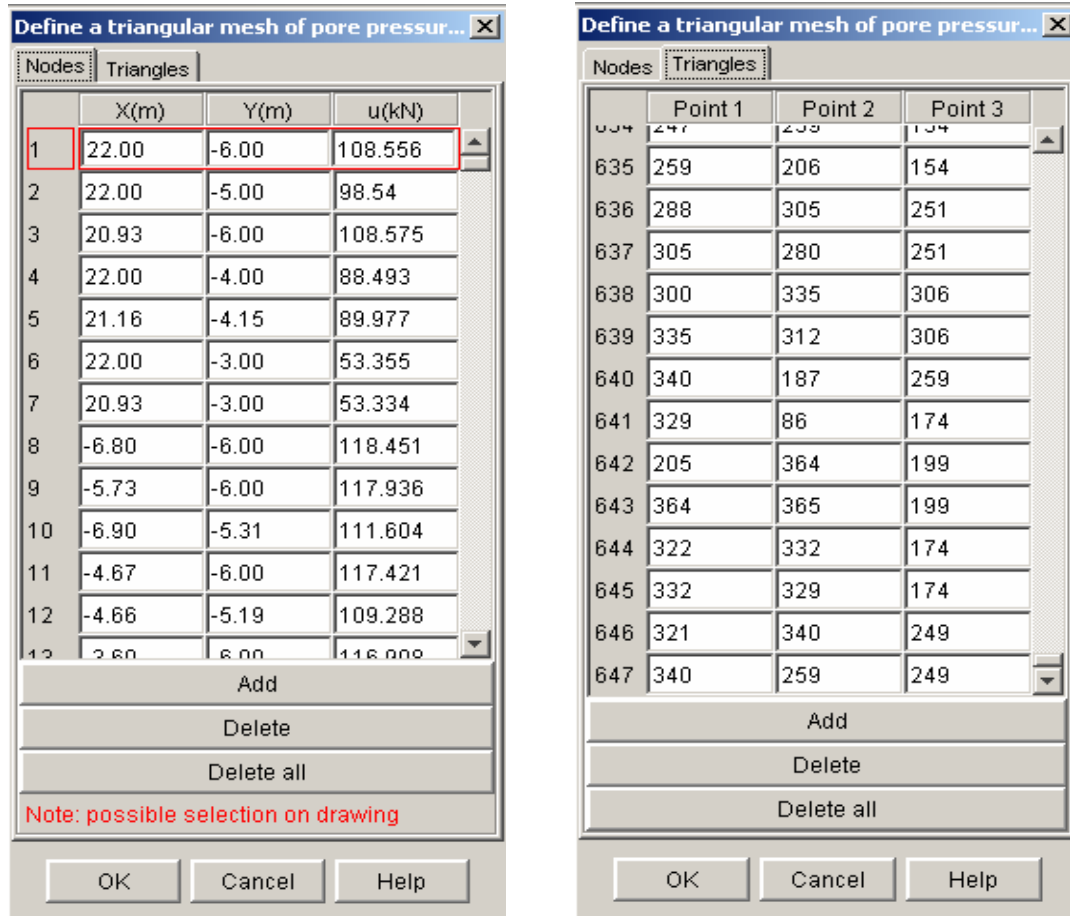

Figure 74: dialogue box displaying nodes and triangles of the pore pressures mesh
- In order to view the nodes and triangles of the pore pressures mesh, as well as the pressure values, click on the button [Define nodes and triangles], then use tabs [Nodes] and [Triangles] (Figure 74). The imported mesh in our case contains 265 nodes and 647 triangles. Validate this dialogue box.